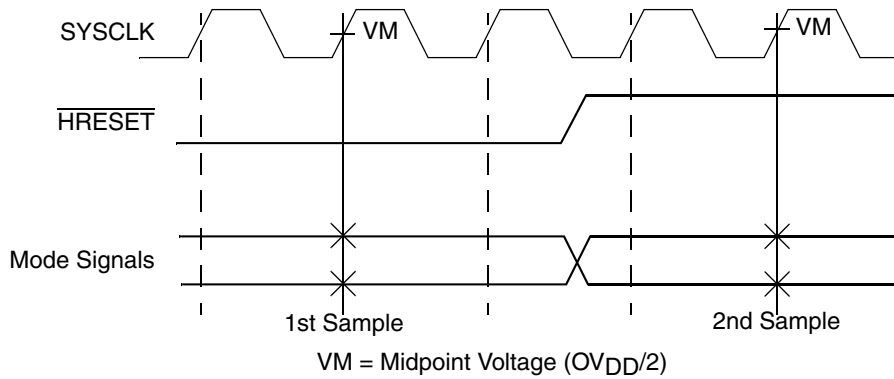

Figure 5. Mode Input Timing Diagram
Table 9 provides the processor bus AC timing specifications for the MPC7457 as defined in Figure 4 and Figure 5. Timing specifications for the L3 bus are provided in Section 5.2.3, “L3 Clock AC Specifications.”
- $\overline{\text{BMODE}}[0:1]$ and $\overline{\text{BVSEL}}$ are mode select inputs and are sampled before and after $\overline{\text{HRESET}}$ negation. These parameters represent the input setup and hold times for each sample. These values are guaranteed by design and not tested. These inputs must remain stable after the second sample. See Figure 5 for sample timing.
Figure 5 provides the mode select input timing diagram for the MPC7457.